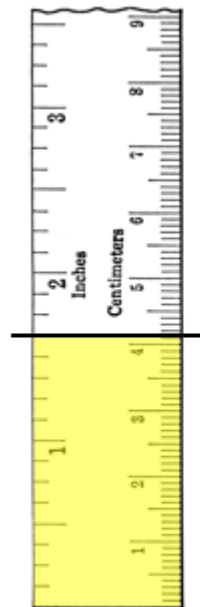

Figure 1: Open/Close Distance for Probe
2. Lift ~1.6 inches to open the probe (Use tape measure or Figure 1)
10. While system is flushing, push down ~1.6 inches to close the probe (Use tape measure or Figure 1)